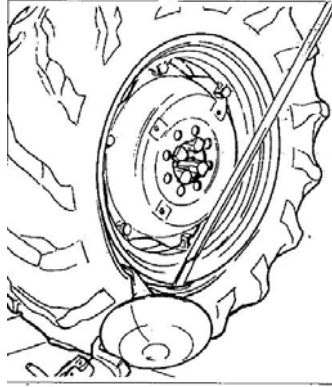

Fig.7.11
- 5) Insert level LA (see Fig.7.11) between rim and bead at the right of the tool.